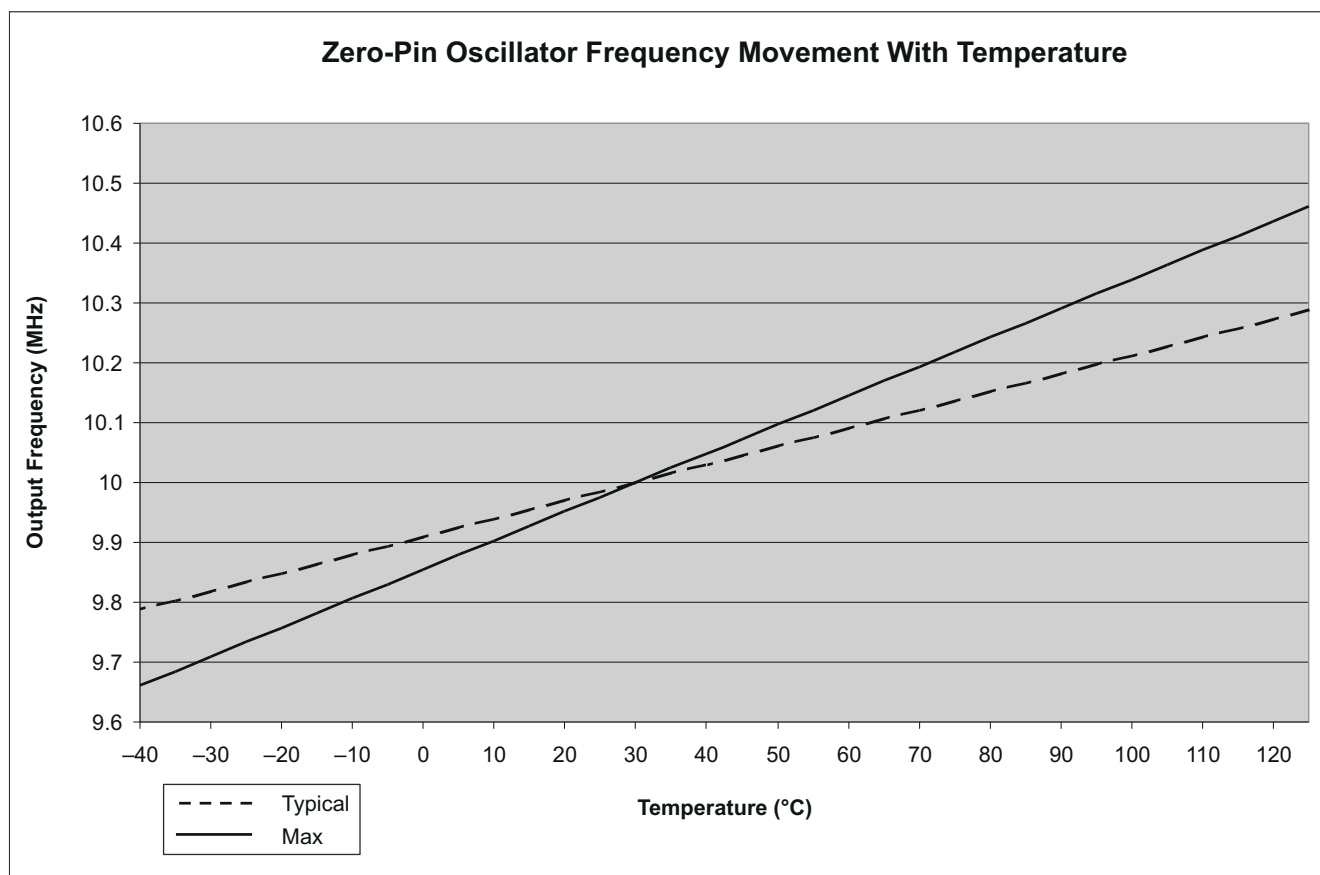

图 7-9. Zero-Pin Oscillator Frequency Movement With Temperature
- (1) Oscillator frequency will vary over temperature, see 图 7-9. To compensate for oscillator temperature drift, see the Oscillator Compensation Guide and C2000Ware.
- (2) Frequency range ensured only when VREG is enabled, V_{REGENZ} = V_{SS}.
- (3) Output frequency of the internal oscillators follows the direction of both the temperature gradient and voltage (V_{DD}) gradient. For example: